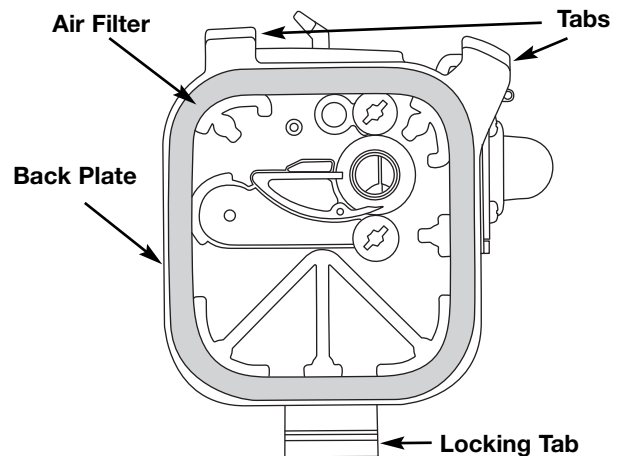

Fig. 24
2. Remove the air filter (Fig. 24).
6. Replace the filter (Fig. 24).
7. Reinstall the air filter cover. Position the slots on the top of the air filter cover onto the tabs at the top of the back plate (Figs. 24 & 28).